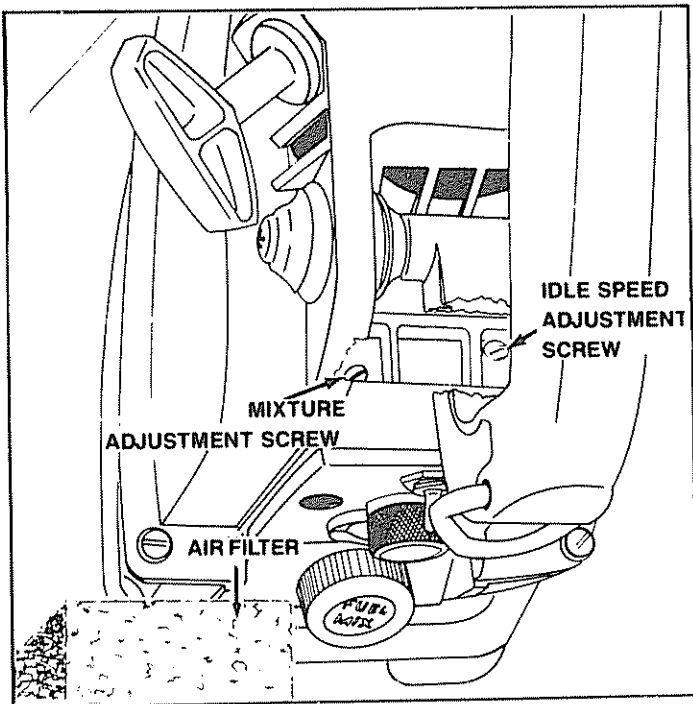

Figure 12
- 3.) Turn mixture screw clockwise  $\rightarrow$  until fully closed, but **do not overtighten**. Figure 12. Unscrew mixture screw one full turn counterclockwise  $\leftarrow$ .